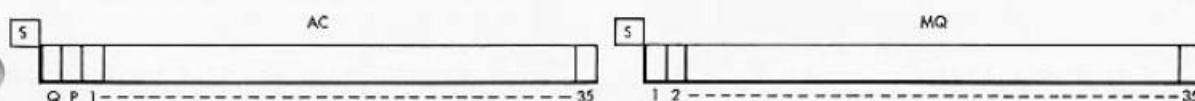

FIGURE 9
4. After a multiplication instruction is executed, the MQ contains the less significant half of the product. In this connection, the MQ may be regarded as the right-hand extension of the AC; see Figure 9.